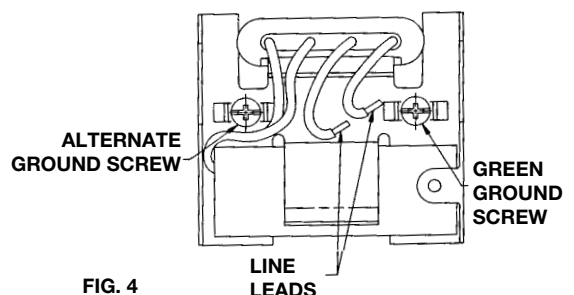

FIG. 4
- D. Connect the ground wire to the inside of the conduit box with one of the green screws provided inside the box. See Fig. 4.